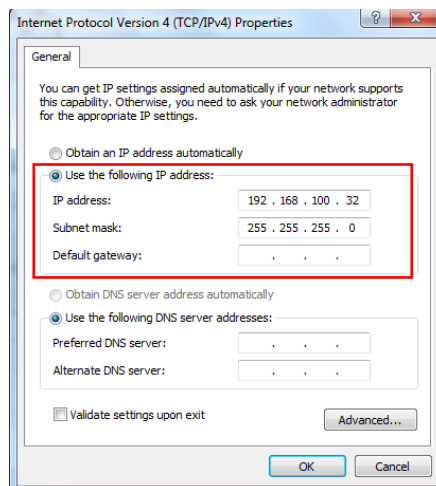

Figure 2-4
- There you can select Use the following IP address: and type an individual one that is within the same subnet range as the cameras (see Figure 2-4). Clicking on OK will save the settings.